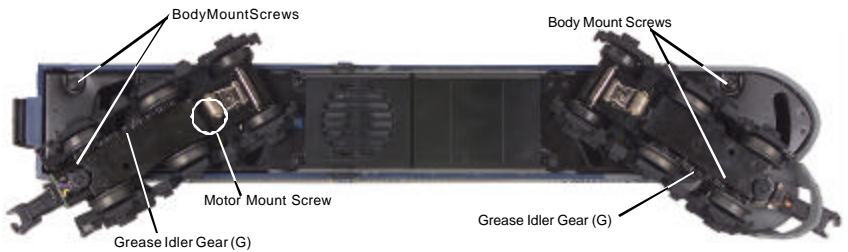

Figure 9. Location of Body Mount Screws and Greasing Points on the Locomotive
1. To access the gear box, remove the body from the chassis by unscrewing the chassis screws as seen in Fig. 9 on page 14 and lifting the body from the chassis.
2. Once the body is removed, remove the trucks by unscrewing the black Phillips motor mount screw located on the underside of the drive trucks (see Fig. 9 on pg. 14).
Lubricate the outside truck block idler and drive gears with grease. Use the diagram shown in Fig. 9 below as a guide and add grease to the points marked with a “G.”